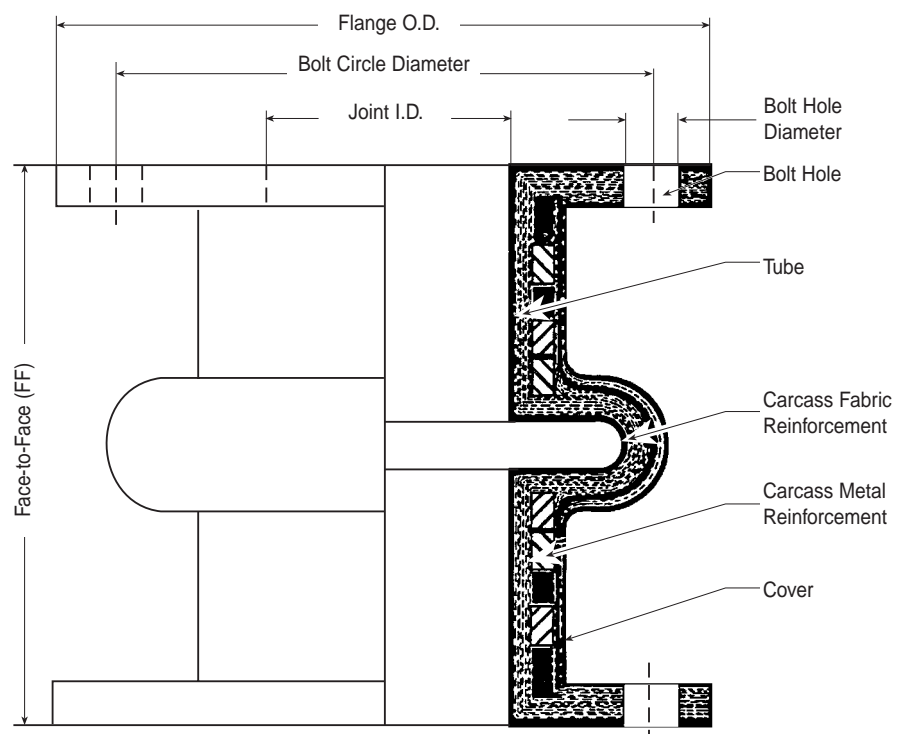
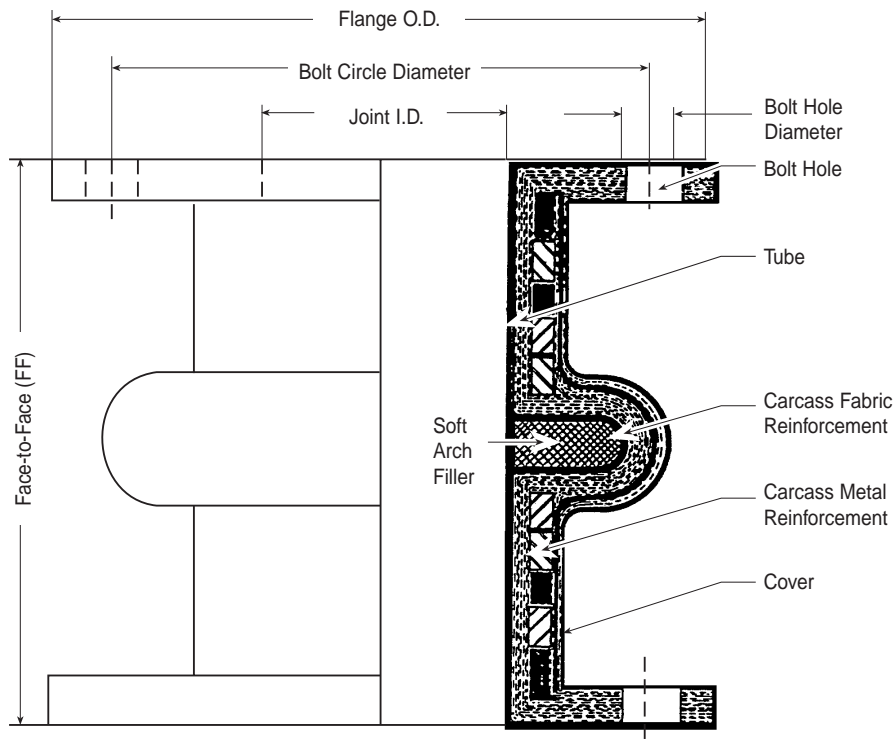
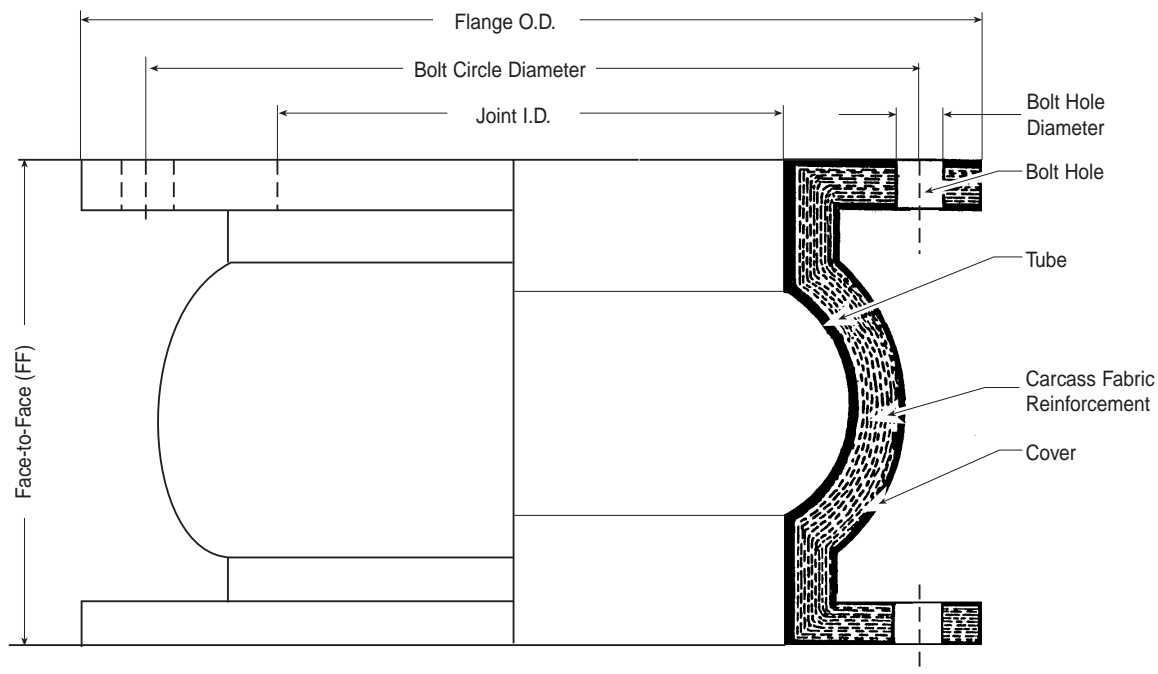
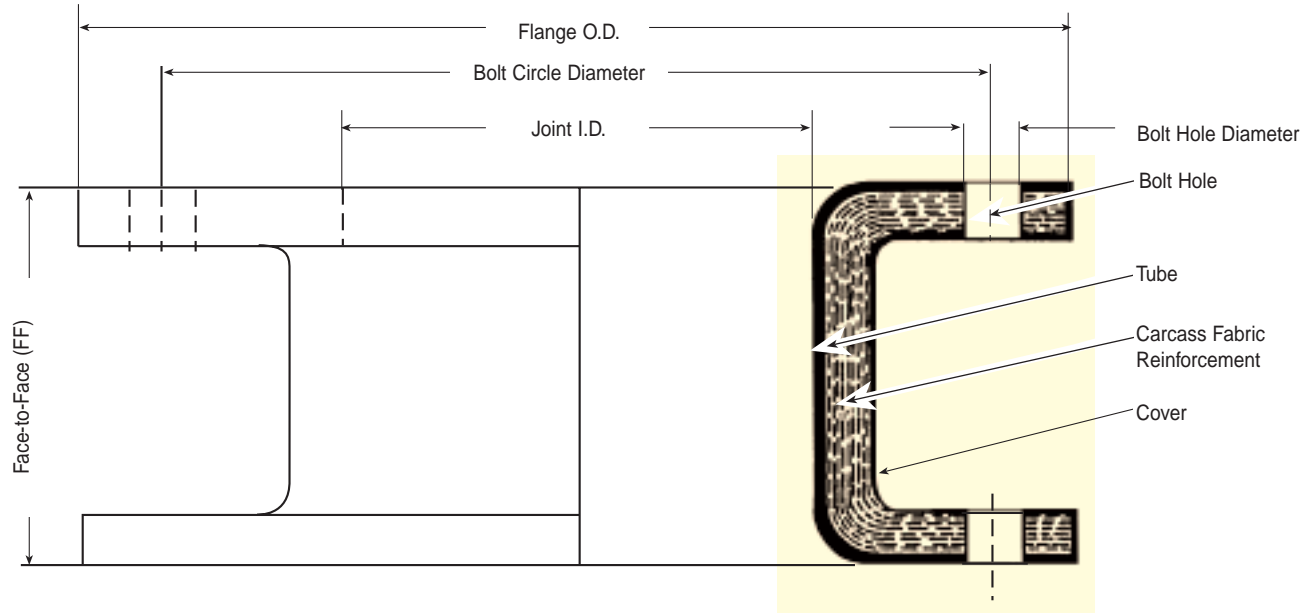

Figure 1
Figure 2
Figure 3
Figure 4
6. **Multiple Arch Type** - Expansion joints with up to four arches may be manufactured to handle greater movements than a single arch. The movement capability of a multiple arch expansion joint is typically that of a single arch type multiplied by the number of arches. (See Figures 1, 2 & Table I)
8. **Fabric/Metal Reinforced** - The strength in an elastomeric expansion joint is derived from design features, combined with rubber impregnated layers of fabric and internal metal reinforcement. (See Figures 1 & 2)
9. **Fabric Reinforcement** - In these styles, wide flowing arch (Figure 3) and U-type (Figure 4), fabric is used to effectively handle design parameters outlined.
2. **Body or Carcass** - Consists of fabric/metal reinforcement. Expansion joints with a combination of fabric and metal reinforcement are shown in Figures 1 & 2. The expansion joints in Figures 3 & 4 have fabric reinforcement only.
for pressure or vacuum service. They are formed from AISI 1018 or other high strength materials and are either round or rectangular (see Figures 1 & 2).
The design types of elastomeric expansion joints are shown in Figures 1 thru 4. The benefits of each type are described:
Figure 1 shows a standard spool type expansion joint. The joint has one open abrupt arch, which is utilized to absorb movements in piping systems. The flanges of the expansion joint are integral with the body and are drilled to conform to the bolting pattern of the metal flanges of the pipe line. This type of rubber faced flange is of sufficient thickness to form a leakproof seal against the metal flanges without the use of gaskets.
The expansion joint is reinforced with fabric plies and round or rectangular body rings. The number of fabric plies and metal rings is directly proportional to the pressure rating of the expansion joint. Utilization of metal body rings provides the dimensional stability needed for vacuum and pressure service. Typical pressure and vacuum ratings of expansion joints in Figure 1 are listed in Appendix, Table V. Service temperature of the expansion joint depends on the materials of construction.
The open arch design of Figure 1 may be modified to reduce turbulence and to prevent the entrapment of solids. Shown in Figure 2 is a standard arch type elastomeric expansion joint manufactured with a bonded, lower durometer rubber arch filler to provide a smooth interior bore. Filled arches built as an integral part of the carcass decrease the flexibility of the joint and should be used only when necessary. Using a filled arch expansion joint reduces movement capabilities by 50%.
Figure 3 shows a self-flushing or flowing arch expansion joint. The streamlined flowing arch reduces turbulence and allows smooth, quiet flow. There is no possibility of sediment build-up and no need to fill the arch, so movement is not restricted.
The U-type expansion joints, as shown in Figure 4, are primarily designed for full vacuum service with a maximum pressure rating of 25 psig (1.7 bar) and temperature of 250°F (121°C). These joints are constructed of several plies of polyester fabric and rubber without metal reinforcement.